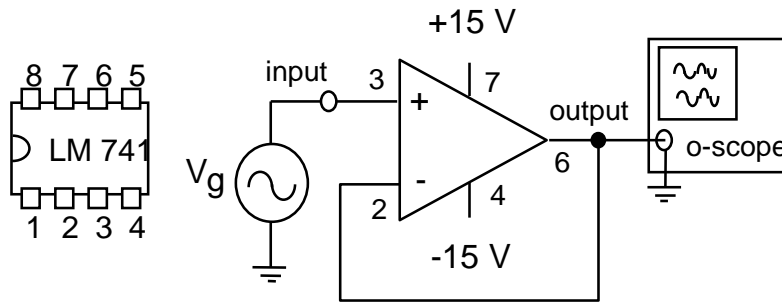

Fig 1: Op-amp IC pin diagram and test-circuit schematic
The op-amp circuits are the only type of *active* circuit that we will encounter in ECE 2A. Active circuits require an external source of energy to operate properly. Figure 1 below shows a picture of the LM741 op-amp that we will use, with the pin numbers conventionally labeled (for more detail, a copy of the LM741 data sheet is posted at the class web site). Most op-amps have the same pin configuration. Use the +/-20V outputs of your bench power supply, adjusted appropriately, for the +/- 15V sources.
(1) Using your breadboards and the lab bench power supply, construct the circuit shown in figure 1 above. This is called the *voltage follower* configuration, and is a type of *buffer* amplifier. It is often used because the high input impedance prevents excessive loading of the source generator; i.e., no current is drawn from the source, therefore no voltage drops on any internal resistance of the source.